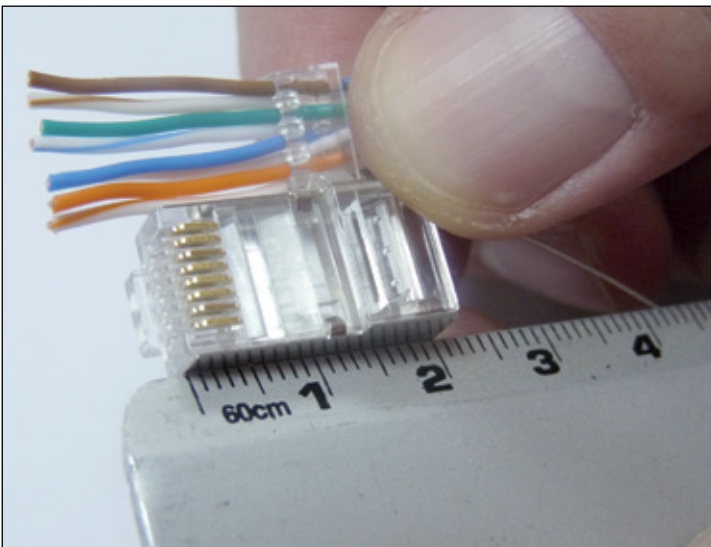

Figure 16
- 12 Please measure with a ruler the approximate distance of 10 mm from the Organizer Insert until the extreme of the **Main Body**, as shown in **Figures 16** and **17**.